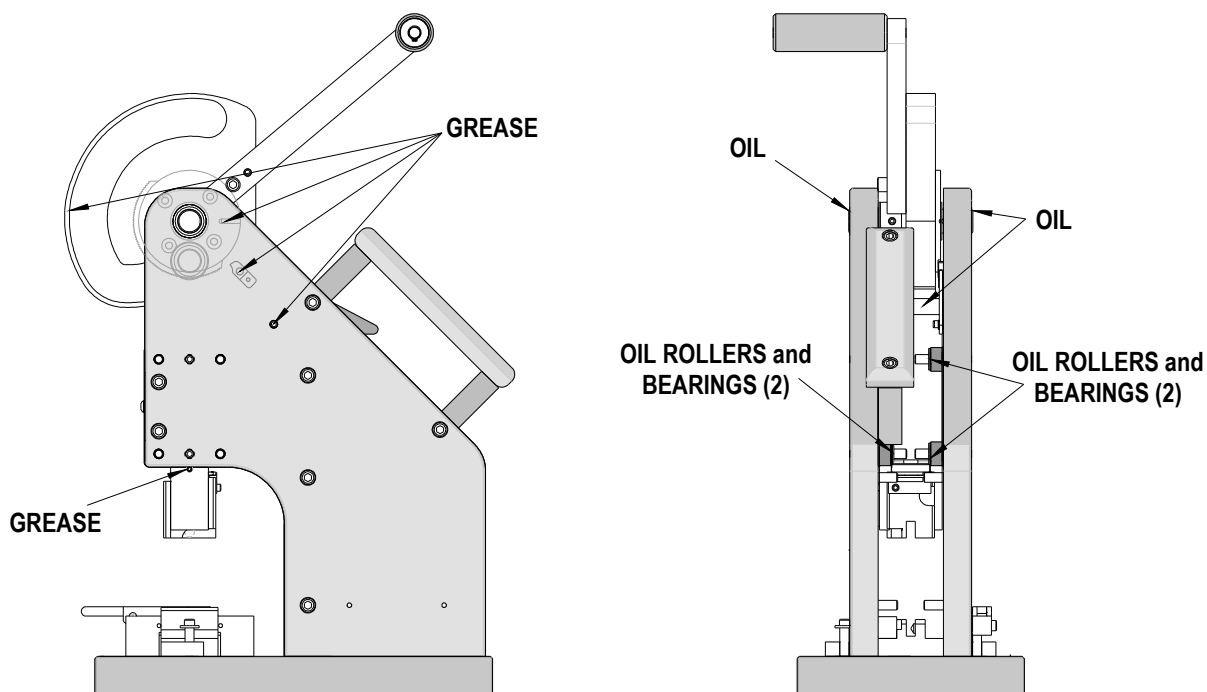

Figure 3-1
4. Lubricate all points shown in Figures 3-1 with the specified oil and grease (or equivalent).